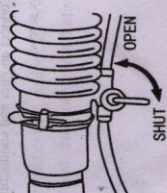

Fig. 8
- 1) During spraying operation, while adding chemical, the switch must be shut, see Fig.8. During dusting operation, dusting value throttle and fuel lever should be on the bottom position, otherwise, the machine will have chemical out.